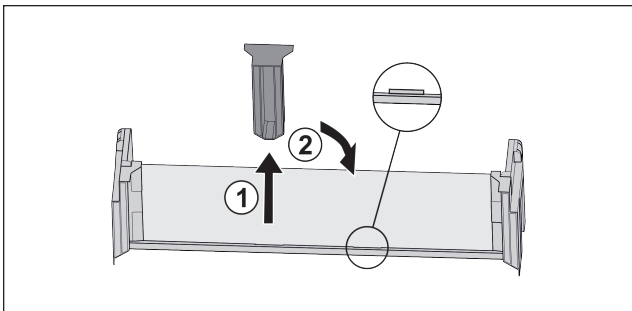

Fig. 79
- ▶ Pull off the middle holder Fig. 79 (1).
- ▶ Insert the middle holder in the second position Fig. 79 (2).